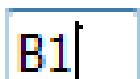

Figure 9.19 "Label of the boring log" edit box
- Double-click on the label of the boring log. The corresponding edit box appears allowing you to modify the label of the boring log, Figure 9.19
- Type "B1" in the edit box of Figure 9.19